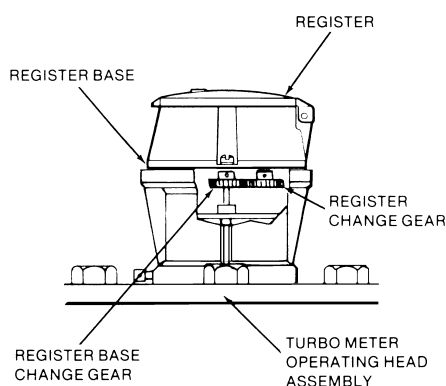

Figure 2: Change gear location, register base and register assembly
5. Install the corrected change gears, taking care to assemble the correct change gears to the appropriate spindles (see Figure 2). For registers, see "Servicing" on page 10 for instructions on the proper method of installing and meshing change gears. See the applicable register's user manual for recalibrating instructions.
- a. Place the bottom of the register on the top edge of the gage. See Figure 2 on page 7.